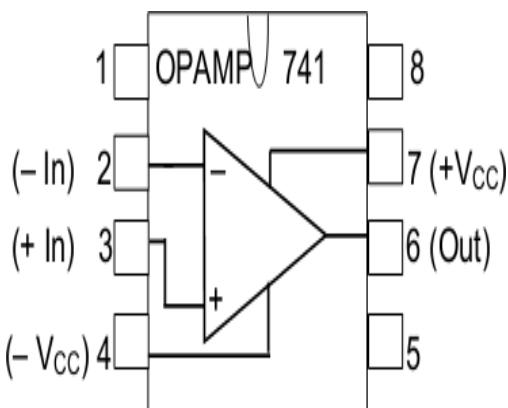

Fig. 1 Pin Connection of OPAMP 741
An OPAMP is an integrated circuit (IC) consisting of number of transistors and resistors inside the chip. The opamp we will use in this course is the extremely popular 741, which has the pin connection given in Fig. 1. (-In) and (+In) are two input terminals, (Out) is the output terminal and (+VCC) and (-VCC) indicate two power supply terminals where **equal and opposite d-c voltages** have to be connected to the opamp for its normal operation. The exact values of these voltages are flexible, but they must be equal in magnitude (range 6-15V) and opposite in sign.